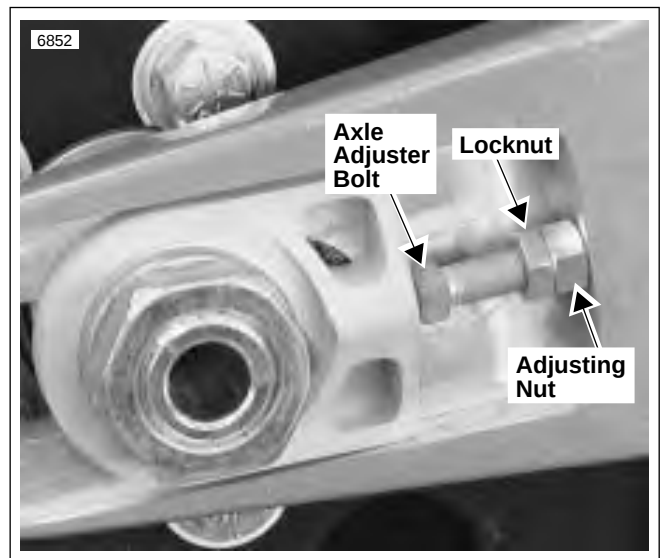

Figure 1-26. Axle Adjuster Bolt, Right Side Shown
See Figure 1-26. Use an automotive-style ignition wrench to hold axle adjuster bolt in place during Step 2.
- c. See Figure 1-26. Repeat this step until the distance between the flat on the axle carrier and the flat of the swingarm is the same on both sides of the rear wheel and belt deflection is correct.